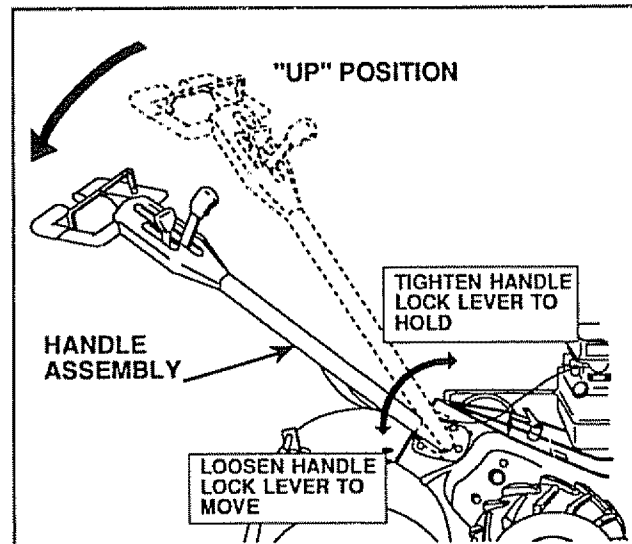

FIGURE 4
- Grasp Handle Assembly. Hold in "UP" position (Fig. 4). Be sure Handle Lock remains in Gearcase Notch. Slide Handle Assembly onto Gearcase.